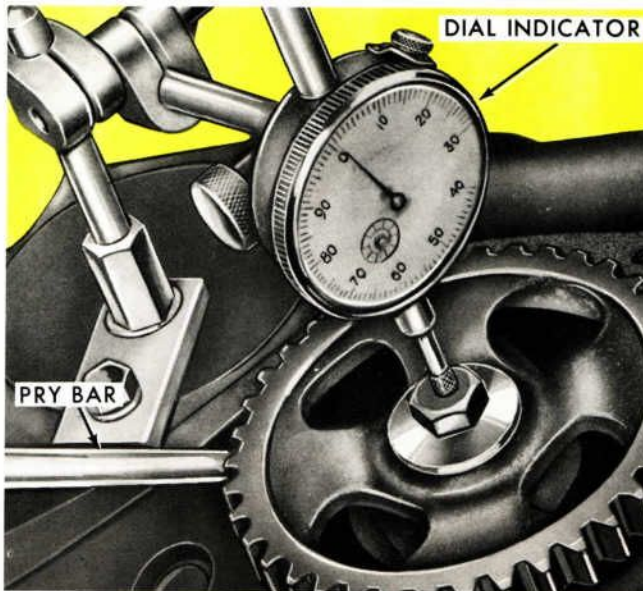

FIGURE A-4. CHECKING CAMSHAFT END PLAY
5. Oil the camshaft journals and apply Lubriplate to all lobes; then carefully slide the camshaft through the bearings. Install the camshaft thrust plate and check the camshaft end play. (See Figure A-4.)